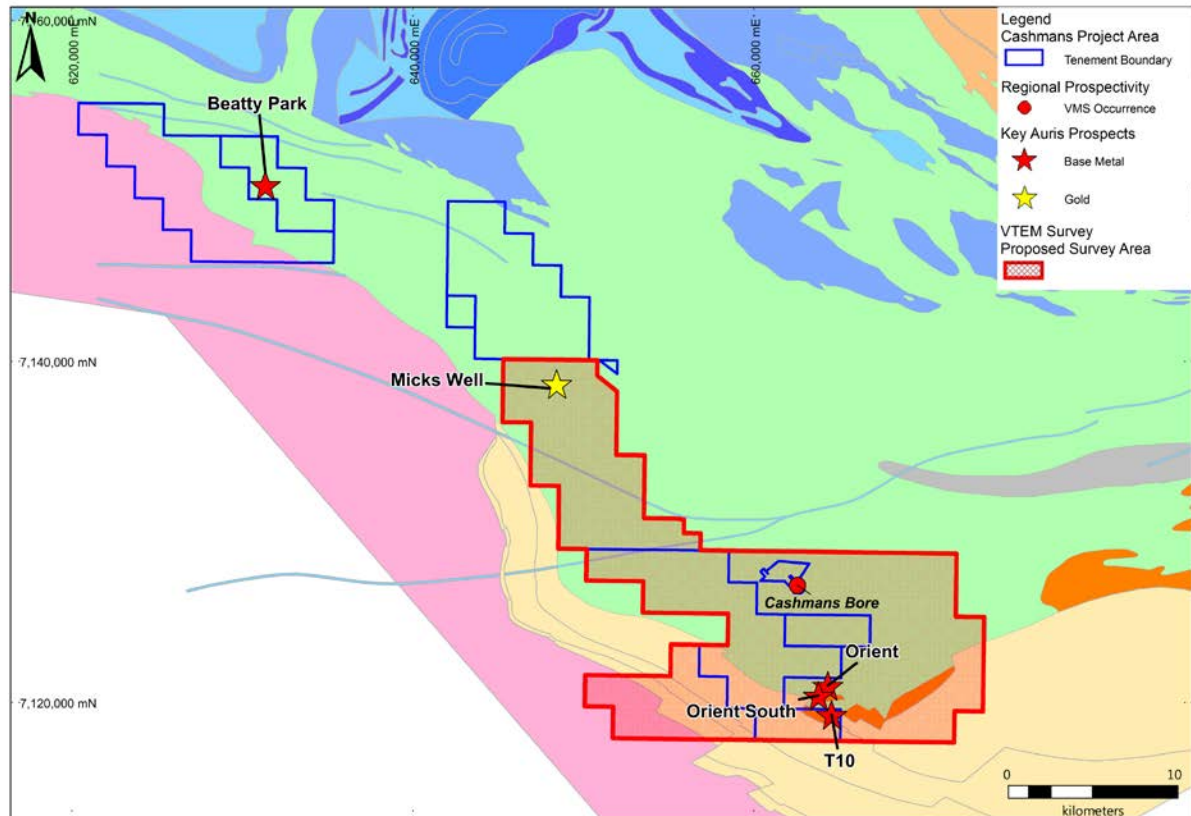

Figure 4: Cashmans Project area – Planned VTEM survey area (red outline)
- Regional VTEM survey to target massive sulphide mineralisation (Fig. 4). The VTEM data will also be used to determine the regolith thickness and map out areas suitable for soil sampling (i.e., areas with thin residual soils).